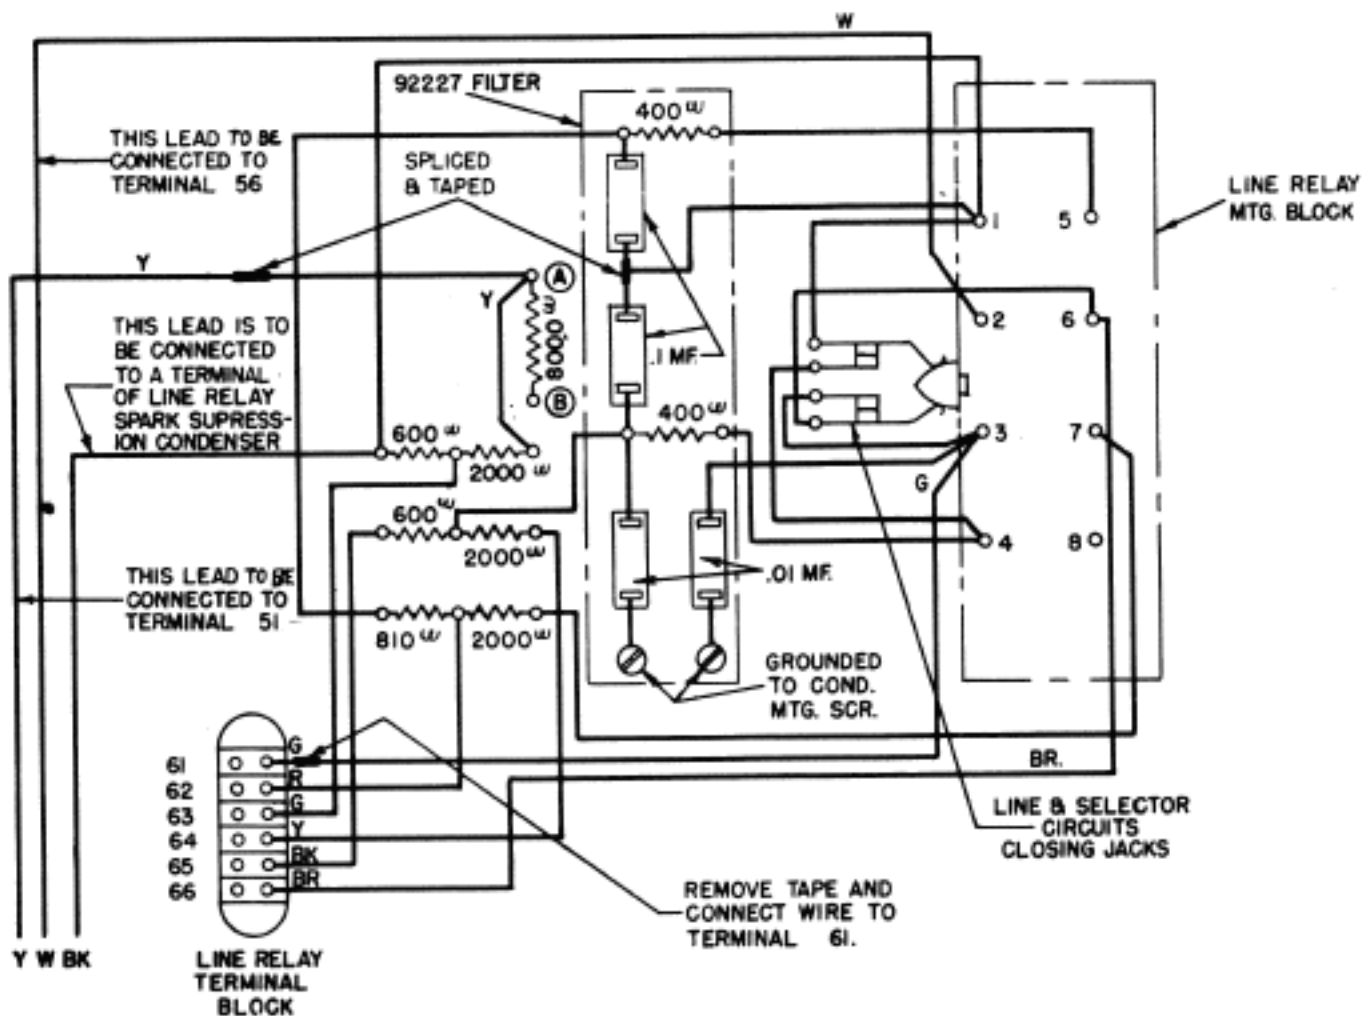

FIGURE 1
2. Connect the terminals of the relay mounting unit cable to the relay terminal block, located under the line relay mounting assembly, as shown in Figure 1. Connect the yellow lead coming from terminal 51 (see WD-2159 or WD-2217) to the rear terminal of the 8000 ohm resistor in the line relay biasing circuit (marked "A"), and connect the white lead coming from terminal 56 to terminal 2 on the line relay mounting block.